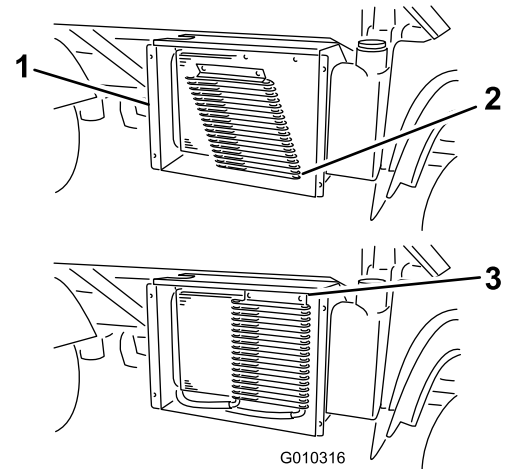

Figure 15
1. Insert the cooler-mounting tabs into the slots below the radiator (Figure 15).
2. Rotate the cooler up and fasten the top of the cooler with the 1/4-turn fasteners on the radiator (Figure 15).